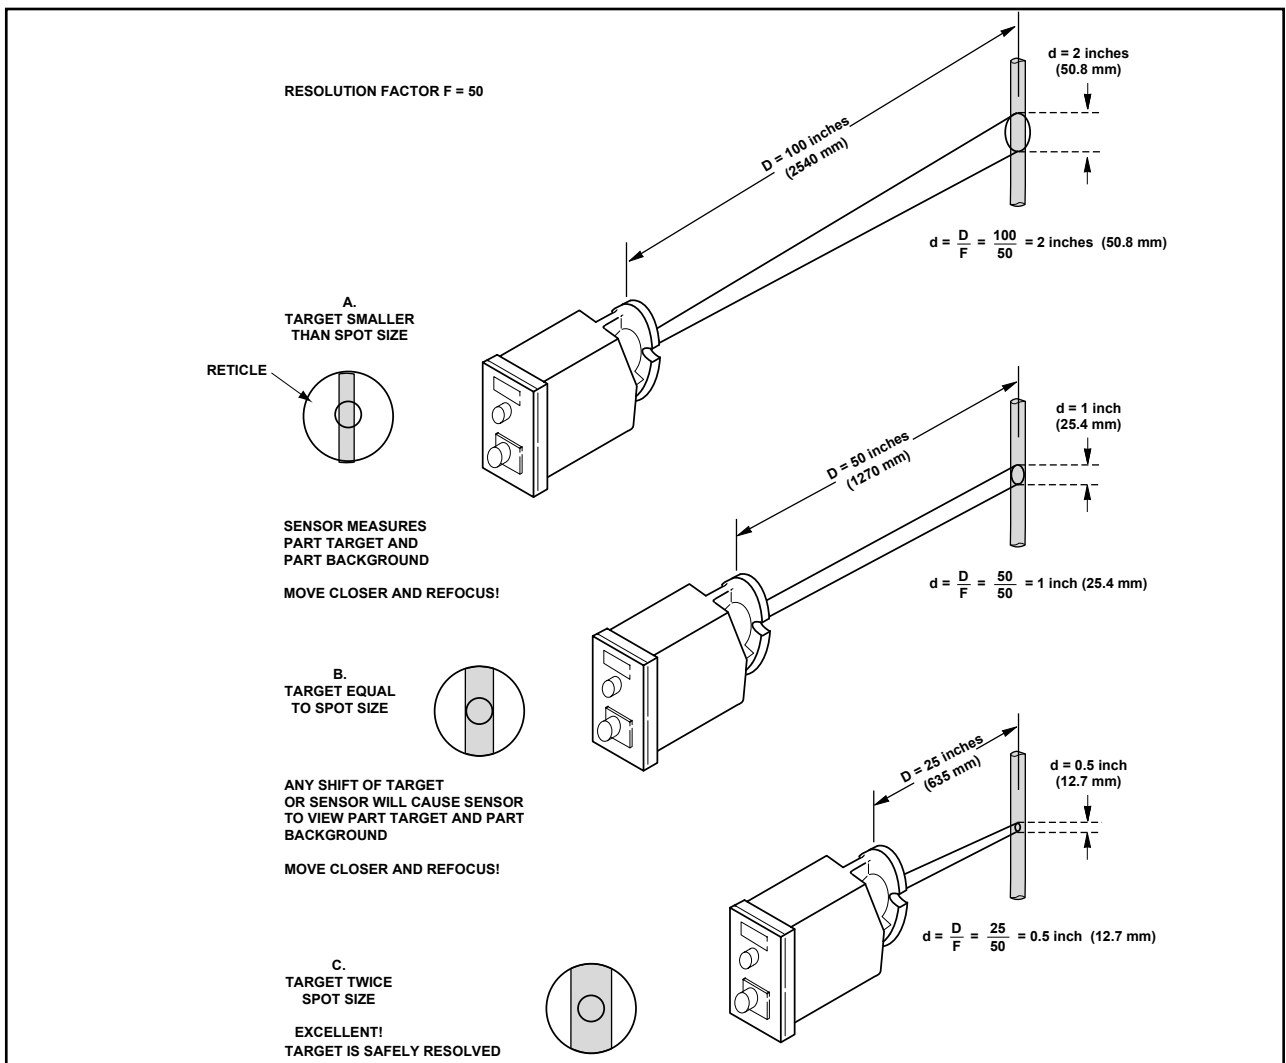

FIG. 2.3 - EFFECT OF VIEWING DISTANCE ON SPOT SIZE
The importance of spot size vs. target size is demonstrated in Fig. 2.3, where a Sensor with a Resolution Factor of $F = 50$ is focused on a 1 inch rod at three different viewing distances.
4. Look into the viewing telescope and note the small circular reticle. (See Fig. 2.3.) Slide the objective lens tube in or out until your target is in sharp focus. As you continue to look through the viewing telescope, move your head from side to side slowly and note whether the target appears to move with respect to the reticle. If it does, adjust the lens tube very slightly until there is no apparent motion between reticle and target. The instrument is then exactly in focus.